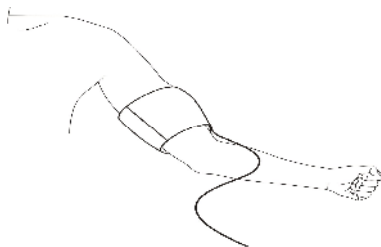

Figure 7-1 Applying Cuff
- 2- Apply the blood pressure cuff to the patient's arm or leg (Figure 7-1) and follow the instructions below.